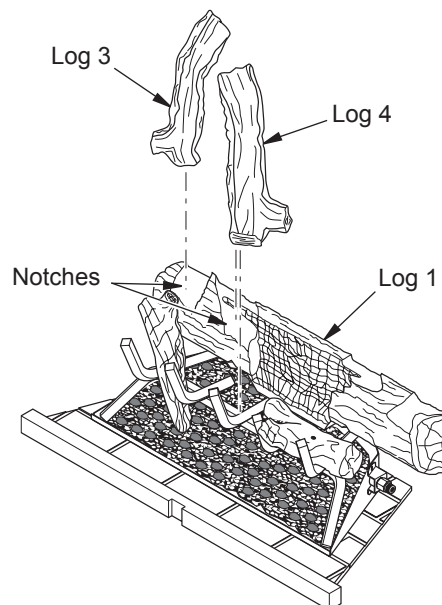
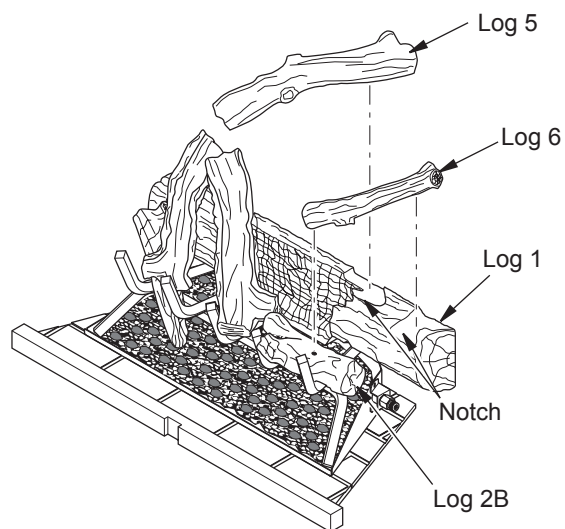
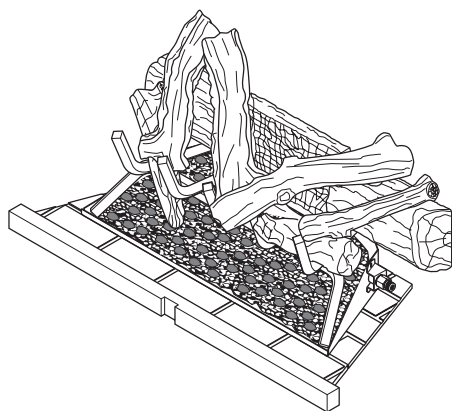

Figure 30 - Installing Logs 3 and 4
Figure 31 - Installing Logs 5 and 6
Figure 32 - Logs Installed for M42, M42P, VM42 and VM42P Models
- Place log 3 into notch on top left of log 1, resting the lower end on the left two grate fingers (see Figure 30).
- Place the upper end of log 4 into the notch on log 1 as shown in Figure 30. Rest the lower end of log 4 on the middle grate finger as shown in Figure 31.
- Place the upper end of log 5 into the notch on the top inner right of log 1 (see Figure 31). Rest the lower end of log 5 on the middle grate finger as shown in Figure 32.
- Place log 6 into the notch on the top right of log 1 (see Figure 31). Rest the lower end of log 6 on top of log 2B (see Figure 32).